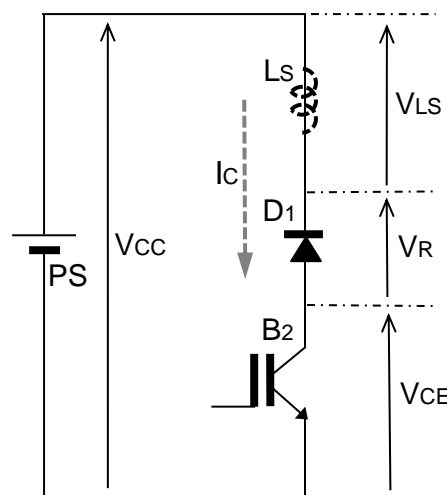

Fig.6. Simplified circuit for transient period
Focusing on the transient period following t_2 , I_c flows through D_1 and B_2 as shown in Fig.6. During this state, L_S is calculated by the following equation (1).